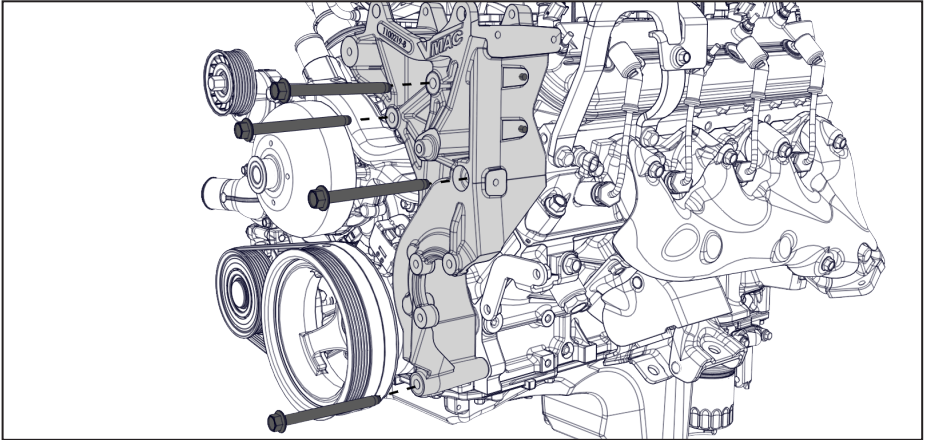

Figure 14 — Main bracket installation
- Install the VMAC main bracket in the location shown and torque the fasteners to specification (Figure 14).